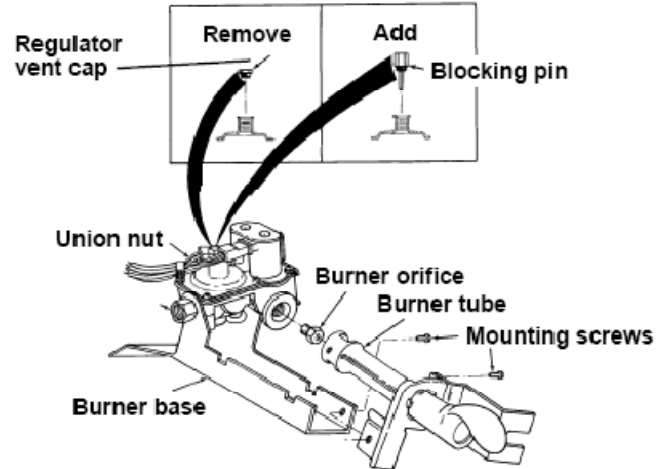

FIGURE 4
- Remove the burner tube from the burner assembly by removing two (2) screws securing it to the burner base. See *Figure 4*.
- Remove the burner orifice from the valve and replace it with the proper orifice furnished in this kit. Orifice number is stamped on one edge of the hex head of orifice. Securely tighten. See *Figure 4*.
- Remove the regulator vent cap (leak limiting device) from the pressure regulator. See Figure 4.
- Install the new blocking pin finger-tight. Do not tighten more than 1/8 turn to seal it. See Figure 4.
- Check that the regulator vent cap has been replaced by the blocking pin as in Figure 4. (Style "A" application only)